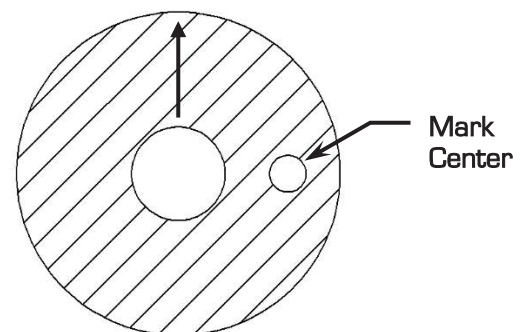

Figure 8b - Switch Mounting Template
13. Cut the template out (Figure 8b) and place it over the existing wiper switch hole in the dash. Make sure arrow is pointed up. (12 o'clock position)